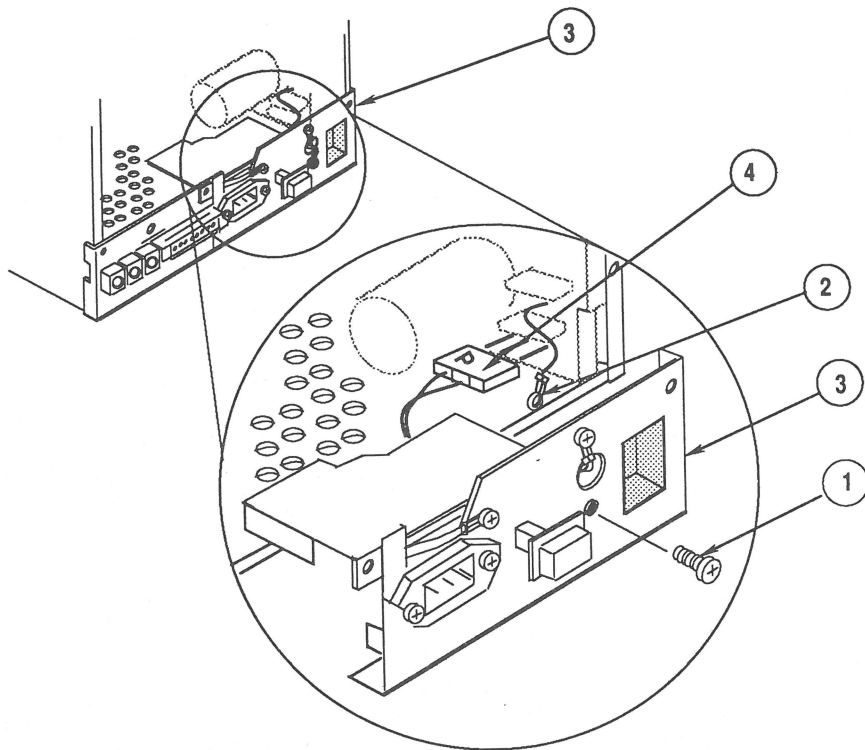

FIGURE 8
4. Remove the screw (Figure 8, #1) that secures the black ground wire (Figure 8, #2) to the AC input assembly mounting bracket (Figure 8, #3). Push the wire through the hole in the mounting bracket.
5. Lift the AC input assembly away from the chassis, and disconnect the **P** connector (Figure 8, #4) from the main deflection board.